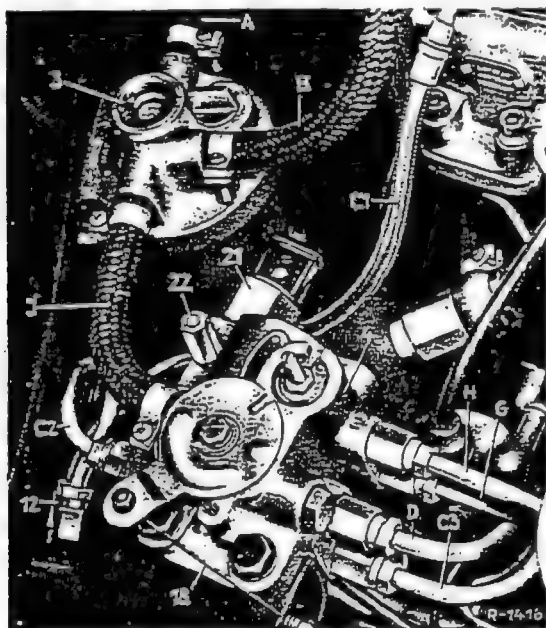

Fig. 32-17/1
2. Unscrew hexagon screws and remove vaporizer jar from the cowl (Fig. 32-17/1).